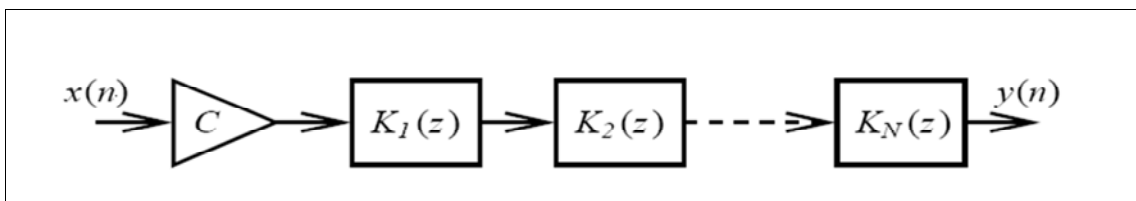

Figure 2: Series cascade of lower order sections.
In principle, any high-order digital filter design can be synthesised as either a series cascade or parallel connection of second order sections. The series cascade, as shown in Figure 2, is often favoured because:
6. Modify your design to implement the filter in cascaded form with Direct Form II sections, as per Figure 2. The cascade form is most simply designed in MATLAB using **butter** and **zp2sos** (zero-pole-gain to second-order sections). Alternatively, you can use MATLAB's **fdatool**: by selecting a **Lowpass, IIR, Butterworth, of order 3** with the required sampling and cut-off frequencies. Once the filter is designed you can **Store Filter** and then analyse it with **fvtool** using the **Filter Manager**;